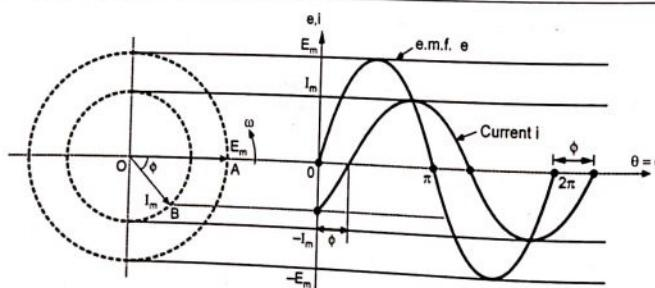

Fig. 2.11.4 Concept of phase difference (Lag)
- Now, when e.m.f. ' $e$ ' is at its zero value, the current ' $i$ ' has some negative value as shown in the Fig. 2.11.4.